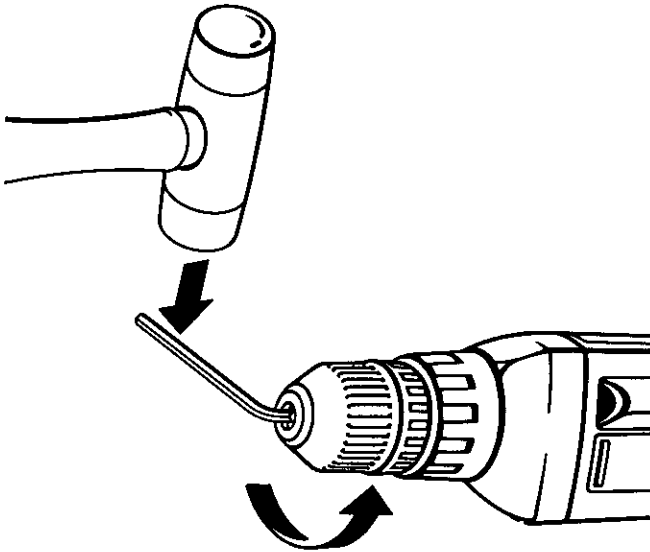

Fig. 11
- Insert allen wrench in chuck and tighten chuck jaws securely. Tap sharply with a mallet in a counterclockwise direction. This will loosen chuck on the spindle. It can now be unscrewed by hand. See Figure 11.